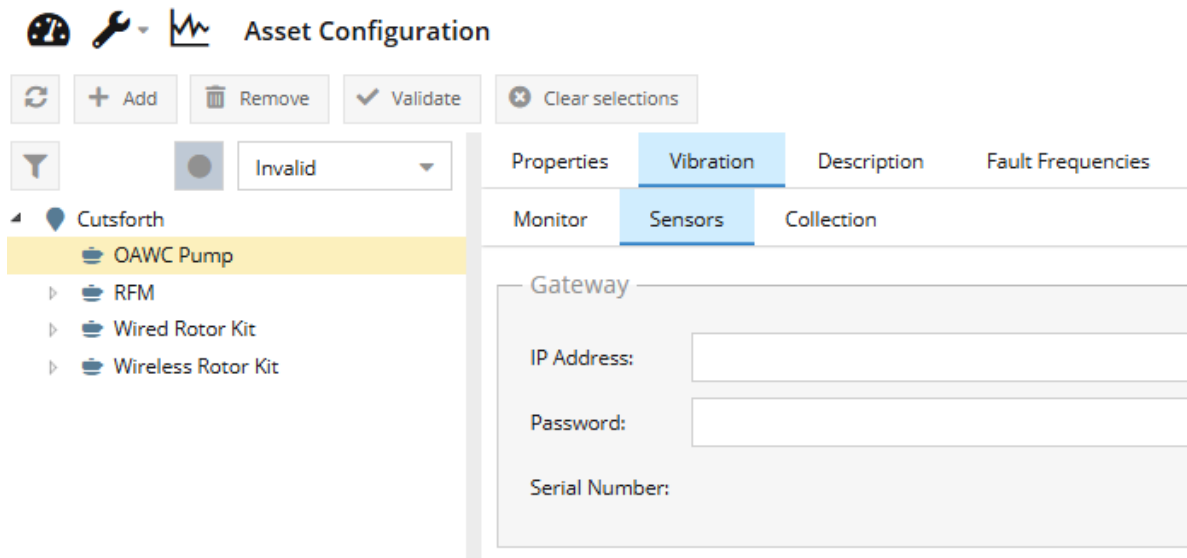
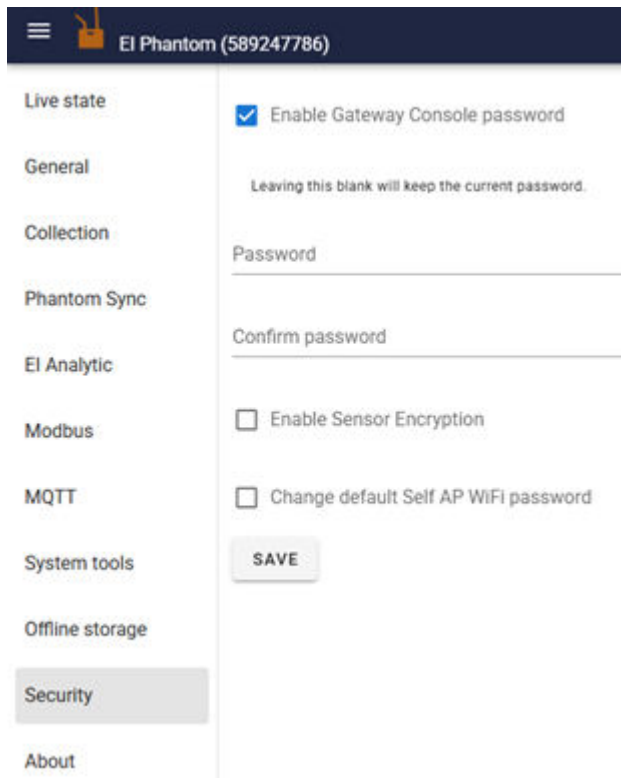

Figure 12. Setting the IP address for the Erbessd Gateway in InsightCM
Figure 13. Setting the Gateway password
2. In the right-side configuration panel, select the Sensors tab (see Figure 12).
3. Enter the Gateway IP address in the IP address textbox (see Figure 12).
Optionally enter the Gateway password in the textbox (see Figure 12), if the Gateway has a password previously configured using the Security menu on the Gateway configuration web page. To set the Gateway password, use a web browser to access the gateway webpage and select the Security item on the left. Check the "Enable Gateway Console password" box, enter and confirm the password (see Figure 13).